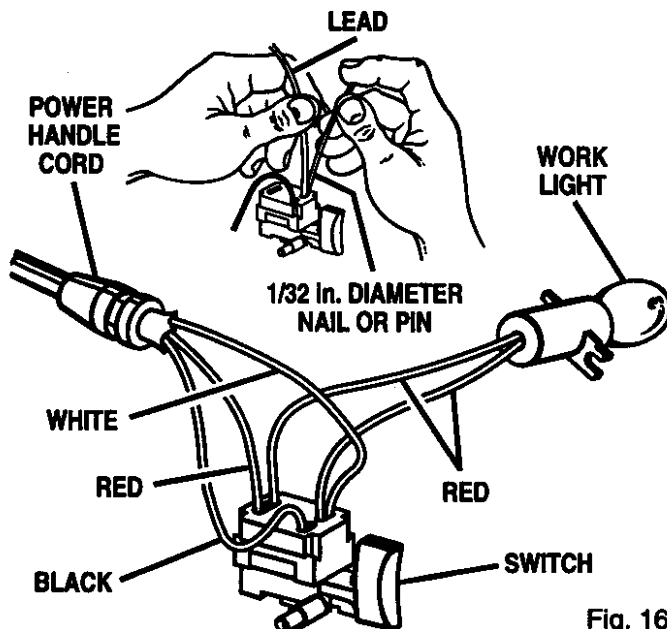

Fig. 16
- Remove leads from switch (D) by inserting a 1/32 in. diameter nail or pin into switch lead receptacle and pulling on lead as shown in Figure 16. Remove nail or pin with a twisting, pulling motion.